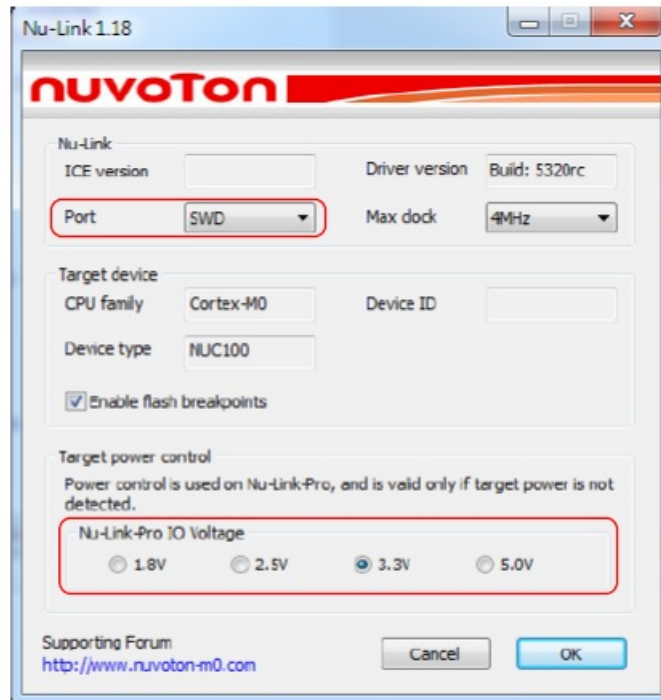

Figure 4-20 Specify the Port and Target I/O Voltage
Step 9: Invoke Nu-Link to open the Nu-Link form, select SWD as the Port, and specify the Nu-Link-Pro I/O Voltage in the Target power control section (3.3V in this case), as shown in **Figure 4-20**.